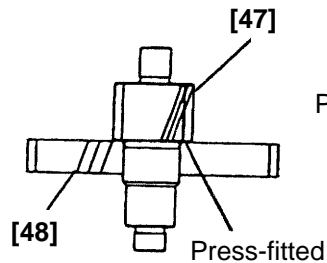

Fig. 17
- 2) Remove the Second Pinion [47] from the Second Gear [48] by pressing with a hand press (Fig. 17).